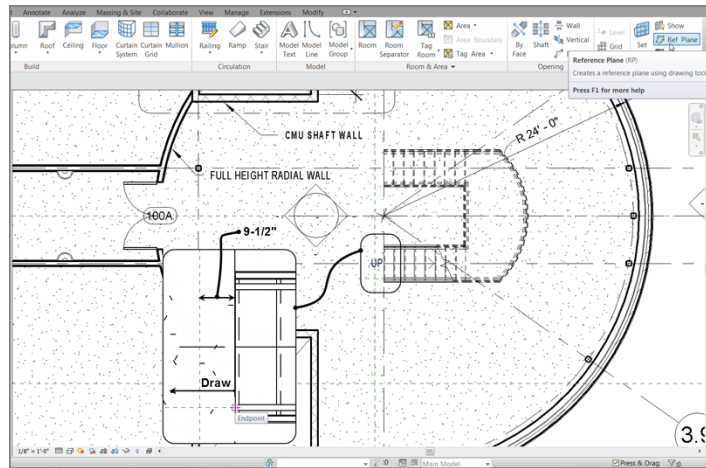

FIGURE 10.14: Add two reference planes as indicated here.
6. Offset a reference plane 9 1/2" (237mm) to the left of the bottom riser (see Figure 10.14).
7. Draw another reference plane from the center line of the bottom railing to the left about 2'-0" (600mm) (see Figure 10.14).